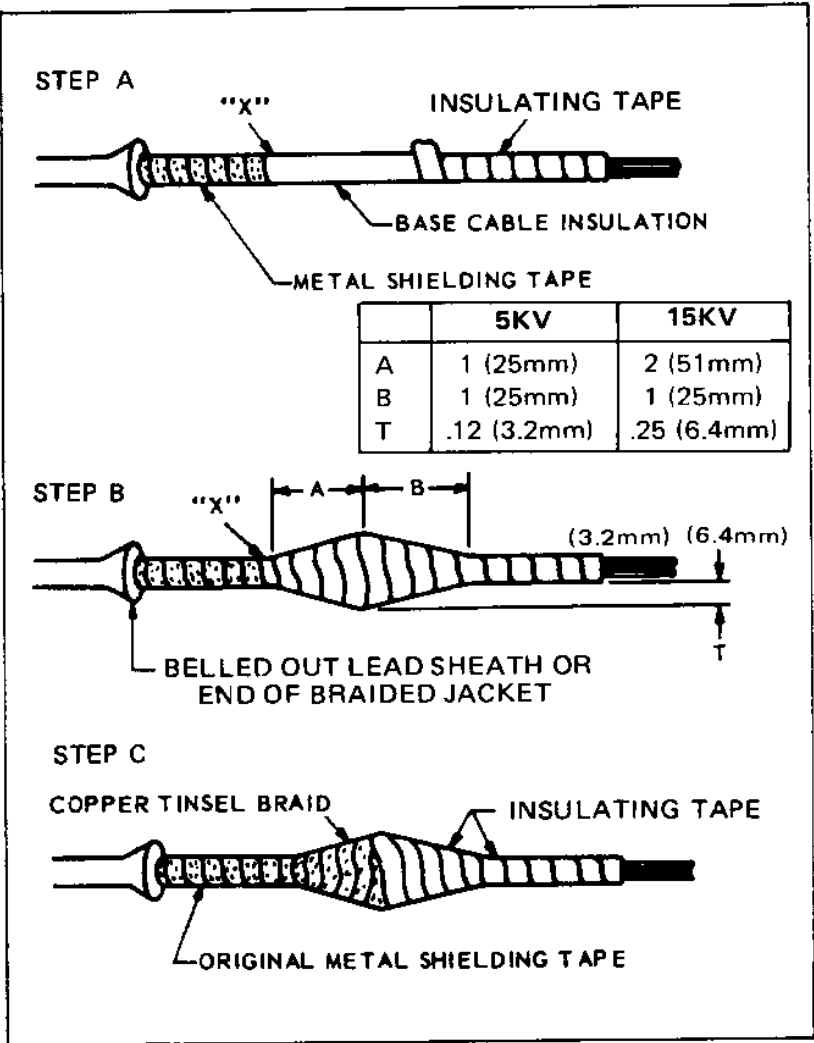

Figure 60. Preparing Cable
- 5. Remove lead sheath from the cable to point marked, being careful not to damage insulation. Bell out lead sheath as shown in Figure 60. For braided cables, remove braid down to point marked.
- 8. Solder cables solidly into the studs. (For voltages above 7500, make stress cones on cables as shown in Figure 60.) If stress cones are not desired proceed directly to Step 9.
Remove shielding and conducting tapes down to bottom of stress cone (point "X", Figure 60). Bare the end of the conductor and solder to stud terminal.